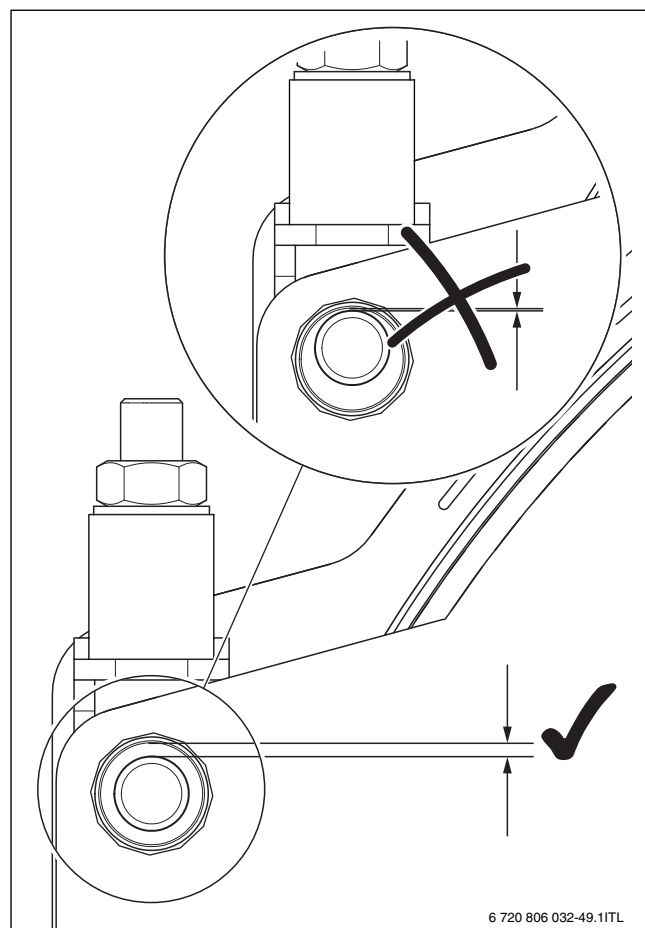

Fig. 19 Positions of burner door and hinge pin
- ▶ Left side: Lower hinges by loosening the hinge nut [2] (2 to 3 turns). The door must no longer be in contact with the pin of the door hinge [4] (→ Fig. 19). Right side: Turn the lock nut [3] 2 to 3 turns in the direction of the burner door. This pushes the burner door away from the boiler. There must be a gap of at least 5 mm between the burner door and boiler in order not to damage the gaskets.